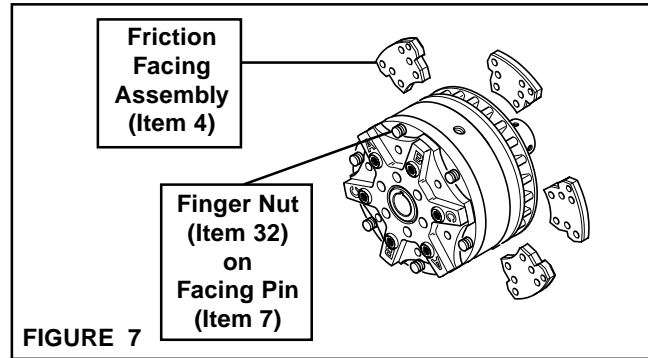

FIGURE 7
1. Pull out on the Finger Nut (Item 32) of the Facing Pin (Item 7) to release the Friction Facing Assembly (Item 4) (See Figure 7).
2. Slide the old Friction Facing Assembly (Item 4) out of the STB (See Figure 7).